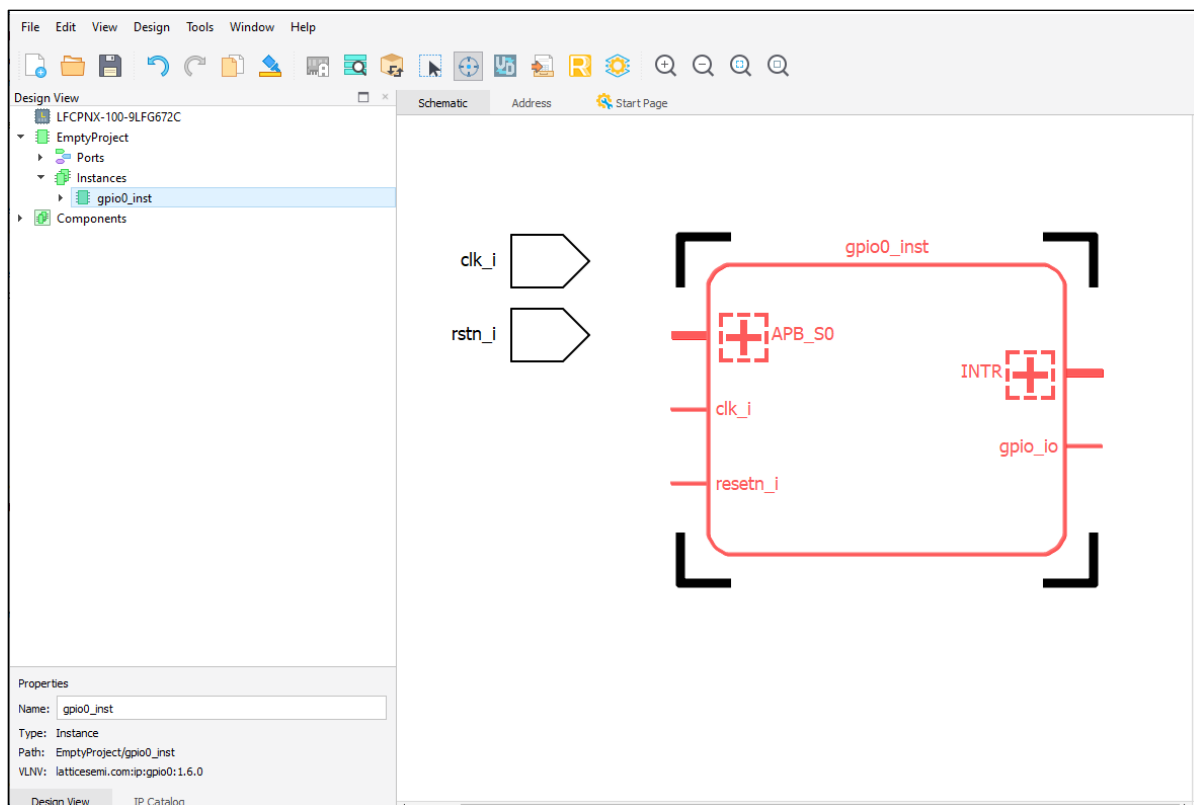

Figure 2.63. Locate Objects
2. Select the object in the List view of the Design View. The selected object is in the center of the Schematic View (Figure 2.63).